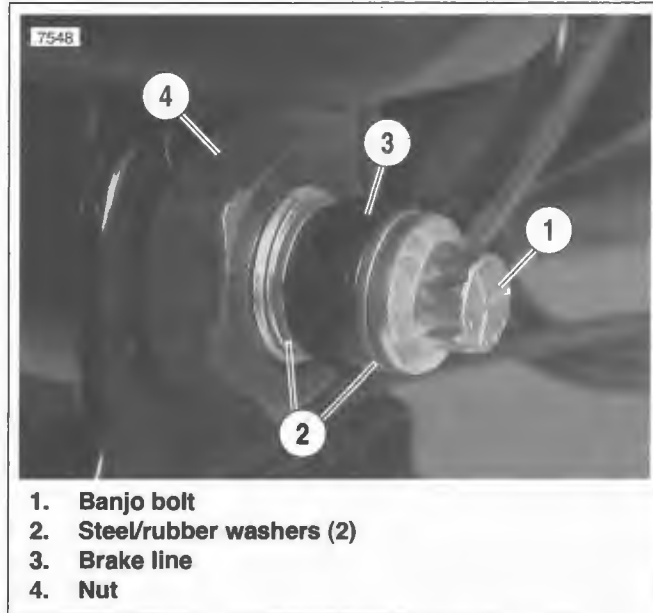

Figure 2-54. Rear Brake Control: Front Mount
1. See Figure 2-54. Remove banjo bolt (1) and two steel/rubber washers (2) to disconnect brake line from master cylinder. Discard washers.
2. Remove nut (4) to free assembly from mounting bracket.
2. Install master cylinder assembly on brake pedal. Install washer (5) and **new** cotter pin (4) on clevis pin (6).
3. See Figure 2-54. Fit collar on cartridge body into hole of mounting bracket. Apply LOCTITE THREADLOCKER 243 (blue) to threads of nut (4). Install nut on cartridge body until finger tight. Tighten to 30-40 ft-lbs (40.7-54.2 Nm).